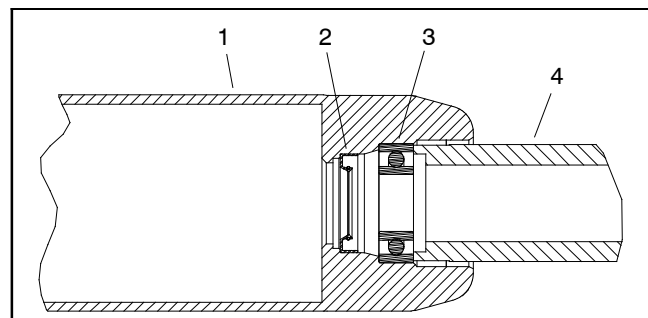

Figure 40
A. Position a new bearing into one end of roller tube. Use bearing/outer seal tool (see Special Tools in this chapter) with a soft face hammer to fully seat bearing against roller shoulder (Fig. 40). After bearing installation, make sure that it rotates freely with no binding.